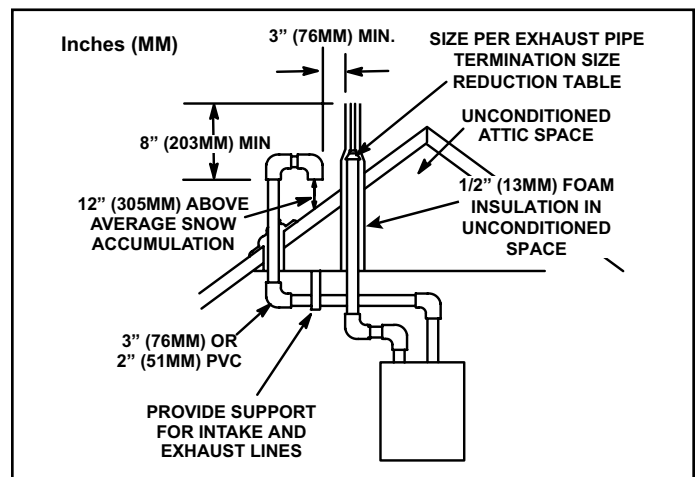

Figure 26. Direct Vent Roof Termination Kit (15F75 or 44J41)
Intake and exhaust pipes may be routed either horizontally through and outside wall or vertically through the roof. In attic or closet installations, vertical termination through the roof is preferred. Figure 26 through Figure 35 show typical terminations.
3. On roof terminations, the intake piping should terminate straight down using two 90° elbows (See Figure 26).